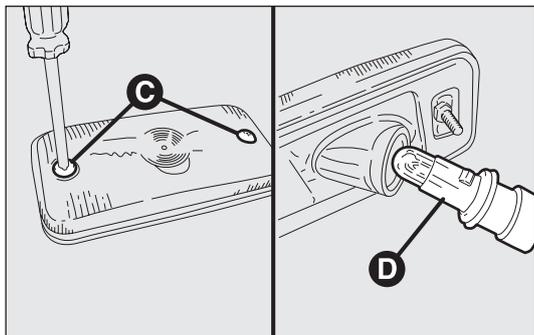

fig. 199
- undo both fixing screws C-fig. 199 and remove the light;